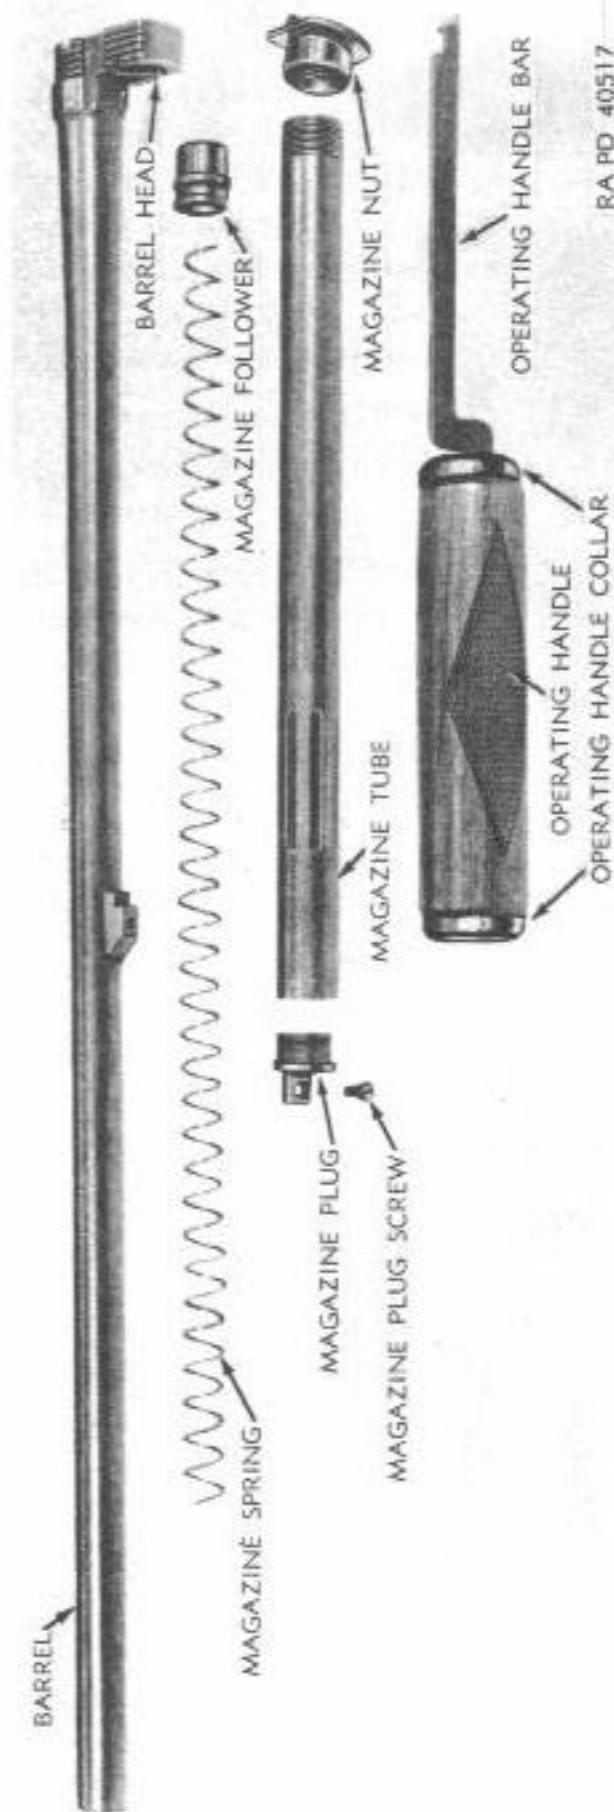

Figure 36—Barrel, Magazine and Operating Handle Group—Disassembled View—Stevens Shotgun M620A
e. General Description (figs. 36, 37, 45, and 46).
(1) The stock of the gun is bolted to the tang which, in the M620A Gun, floats and locks to the receiver and trigger plate by the forward end of the tang seating in grooves in rear end of receiver and trigger plate, when assembled. In the M520 and M620 Guns, the stock is fastened to the receiver and trigger plate by a screw which passes vertically through an integral tang on the receiver, the stock grip, and screws into an integral tang on the trigger plate.
(2) The barrel, magazine, and operating handle bar group is attached to the forward end of the receiver by means of grooves and guides in the rear end of the barrel sliding into and mating with similar grooves and guides in the forward end of the receiver. When the group is in position, the magazine nut is moved rearward by screw action of the magazine tube, so that lugs on the nut engage in slots in the receiver and barrel head to hold the groups locked together. The magazine is of the tubular type with a capacity of five shells loaded end to end. The shells are pressed together and fed into the receiver by the force of the magazine spring acting upon the follower.
(3) The magazine tube is locked to the barrel at the rear by the magazine nut, and forward by a screw passing through a lug in the magazine plug and into a lug on the barrel. The operating handle is mounted and operated on the magazine tube, and the operating handle bar attached to the rear end of the operating handle tube passes through the forward end of the receiver and engages with and operates the slide. This slide in turn connects with and operates the sliding breech and lifter and cocks the hammer.
24. REMOVAL OF GROUPS (figs. 36, 37, 45 and 46).